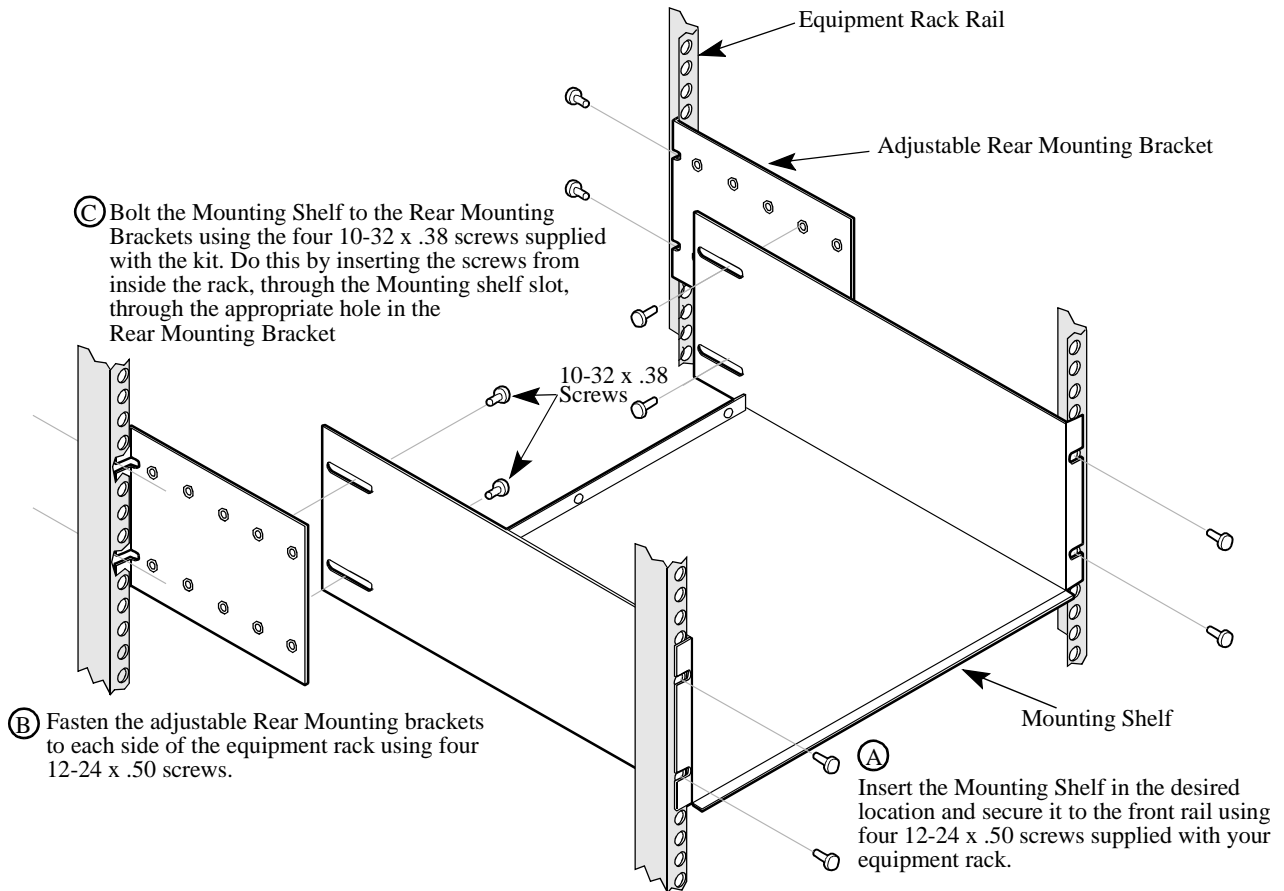

Figure 2. The PathBuilder S24x, 26x, and 27x switch Rackmount Assembly
2.	Fasten the adjustable Rear Mounting brackets at each side of the rear of the equipment rack. Use the remaining four 12-24 x .50 long screws. (Steps 3, 4, and 5 are Figure 2 and are labeled A, B, and C.) When installed correctly, the rear mounting brackets should be on the outside of the Mounting shelf.